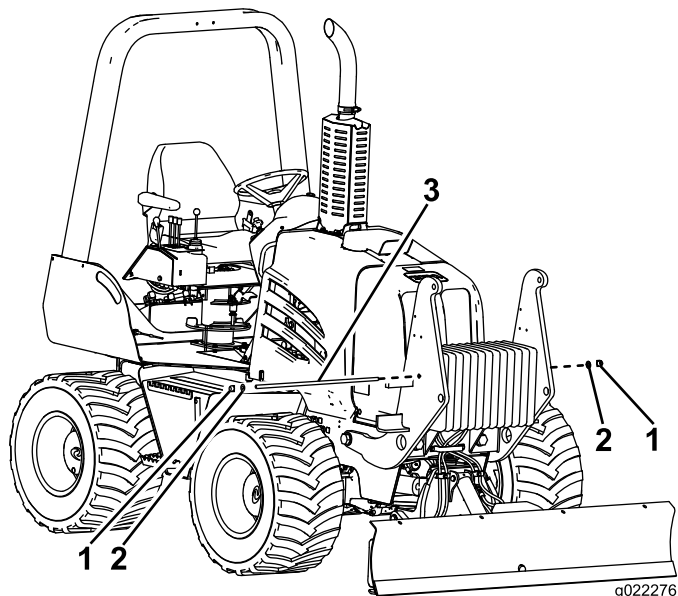

Figure 4
2. Secure the counterweight(s) to the mounting frame with the rod, washers, and locknuts that you removed in step 1 of Preparing the Machine; refer to Figure 4.